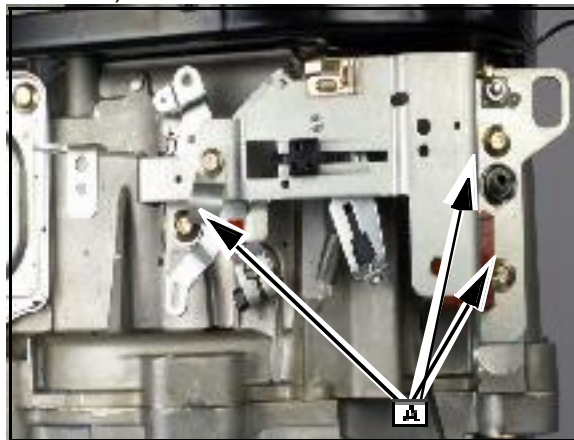

Fig. 14
3. Remove control bracket screws ([A] Fig. 14).